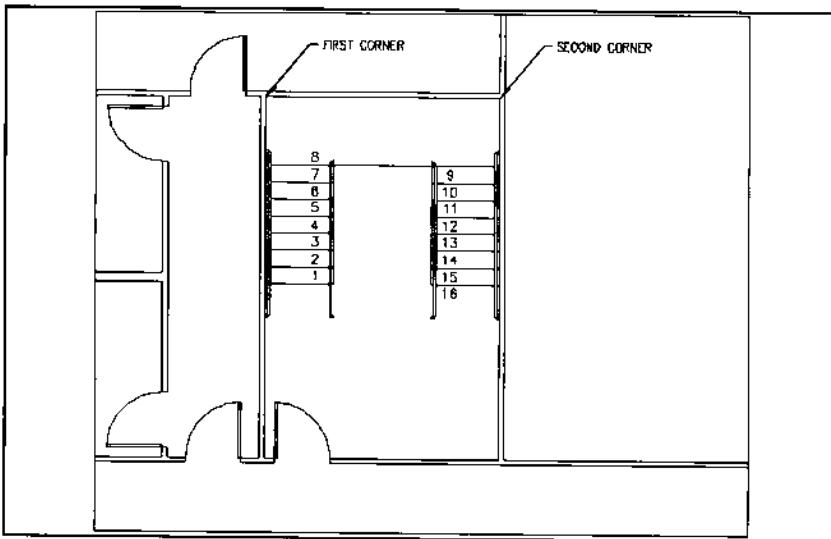

Figure 69.
5. Select the same beginning points for the mid-landing at the top left and right corners of the Stair space, as shown in Figure 69. Then pick a point toward the door when prompted for the direction of the bottom of the stairs.
- > Pick first corner of the mid-landing: INT of [point 1, as shown in Figure 69]